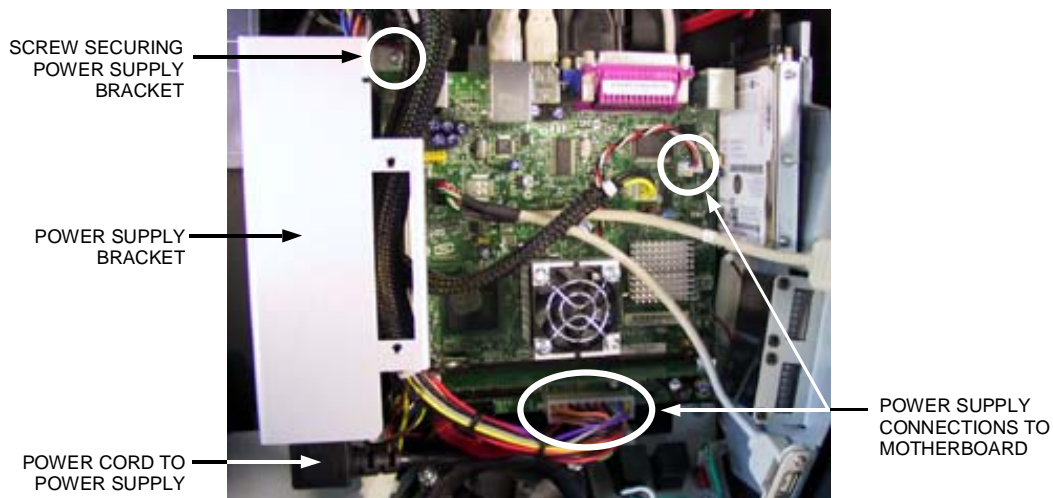

FIGURE 1 - TOP VIEW OF POWER SUPPLY & MOTHERBOARD
4. Remove the screw securing the power supply bracket (see Figure 1), then lift the bracket from the front to remove it from the system.
5. Noting where the connections are, disconnect the power supply from the 2 places where it is connected to the motherboard (see Figure 1).
6. Remove the power cord from the rear of the power supply (see Figure 1), then remove the power supply from the system.
1. Connect the power cord to the rear of the new power supply, then position the power supply in the unit with the power cord facing the rear of the system (see Figure 1).
2. Replace the 2 connections from the new power supply to the motherboard (see Figure 1).
3. Replace the power supply bracket on top of the power supply. While doing so, be sure to route the wires running from the power supply in the manner shown in Figure 1.
4. Screw the power supply bracket into place to secure it (see Figure 1).